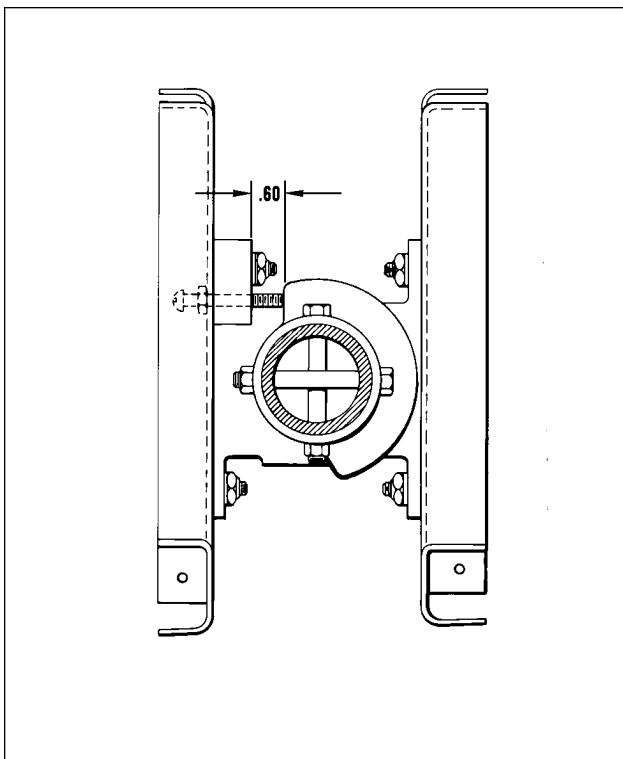

Figure 27-21. Flap Step Adjustment
3. To adjust the flap up stop and step lock, loosen the jam nut of the right torque tube stop screw, located in the floor opening along the outer end of the flap torque tube, and turn the stop screw to obtain approximately .60 of an inch between the stop fitting and the bearing block as measured along the top side of the screw. (Refer to Figure 27-21.) It may be necessary to loosen the adjustment screw of the left stop.